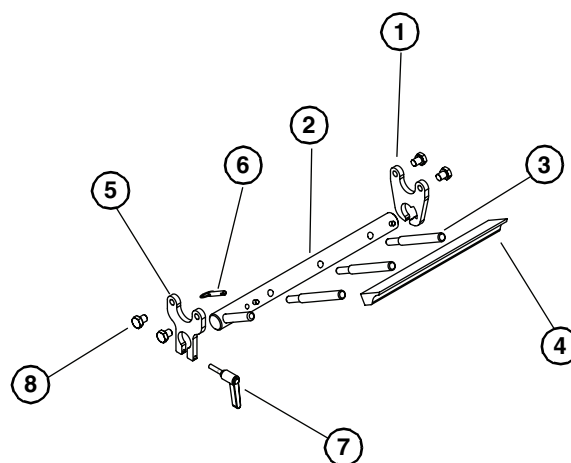

Figure 18
Typical Scraper Components (**Figure 18**)
1. Attach the scraper adjust plate (**Figure 18, item 1**) and the scraper mount plate (**Figure 18, item 5**) to the frame using four M10-1.5 x 12mm hex head cap screws.